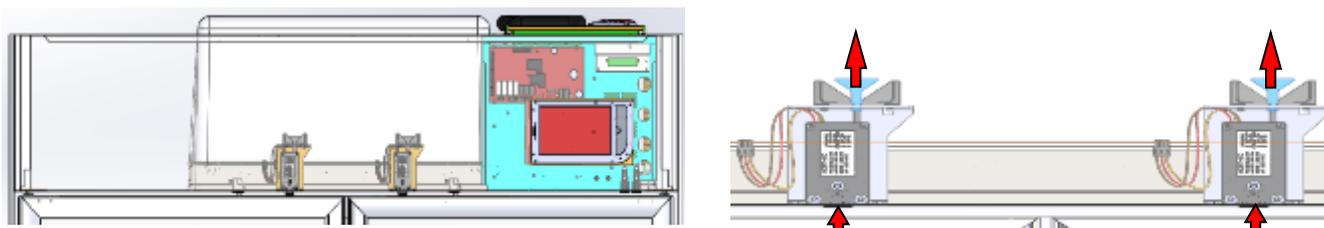

Figure 29 – mod. 1500 digital electric lock position
- **For model 1500** manual door opening has to be performed by accessing from top of the refrigerator – figure 29. Pulling the release lever upwards and keeping levers individually in tractions, allows opening the related door.